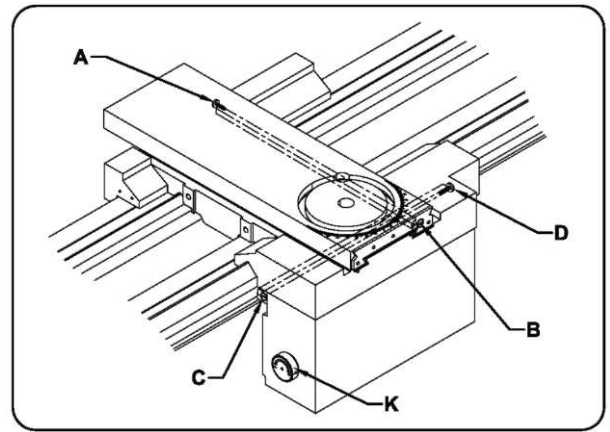

Fig.24
To adjust the cross-slide, slacken the rear screw (A) and tighten the front screw (B) (Fig.24), making only a slight alteration with constant checking for smooth action.
Both gibs are adjusted by slacken the small ends gib adjusting screws (D) and tighten the large ends gib adjusting screw (C). (Fig. 24)